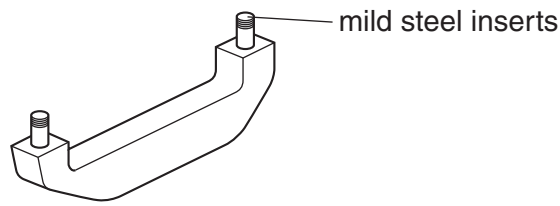

Fig. 7
Fig. 7 shows an injection moulded cupboard handle.
- (e) (i) State a **suitable specific material** for the injection moulded handle shown in Fig. 7 and give **two** properties or characteristics that make the material suitable for this use.
- (ii) Draw a flowchart to show the key stages of manufacture of the cupboard handle shown in Fig. 7, from raw material to final assembly.